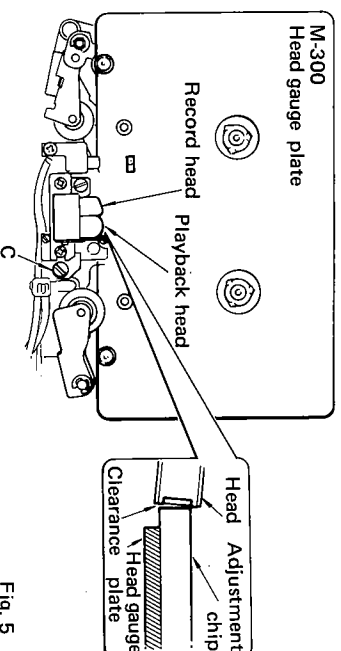

Fig. 5
2. If there is a clearance at either record or playback head, adjust so that the clearance will be at the lower side as shown in the Fig. 5.